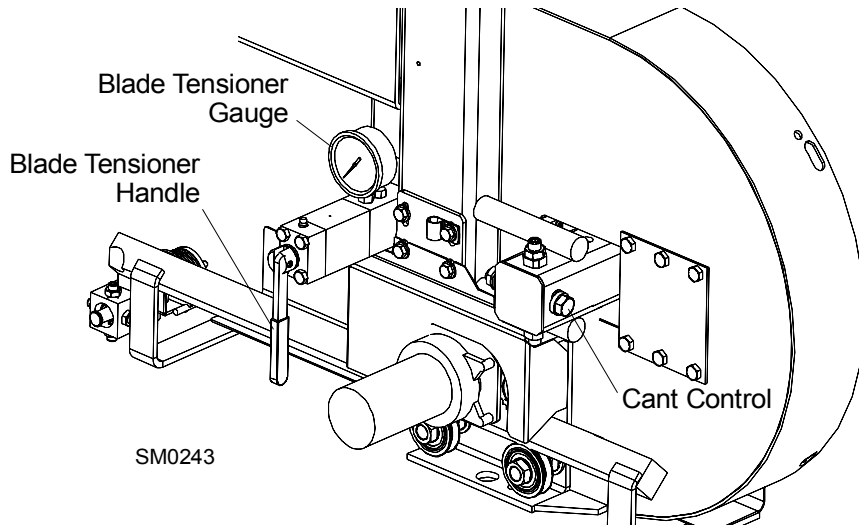

FIG. 2-7
See **Figure 2-7**. Tension the blade by turning the hydraulic tensioning handle clockwise until the tension gauge indicates the recommended tension.
5. To adjust where the blade travels on the blade wheels, use the cant control shown in **Figure 2-7**.